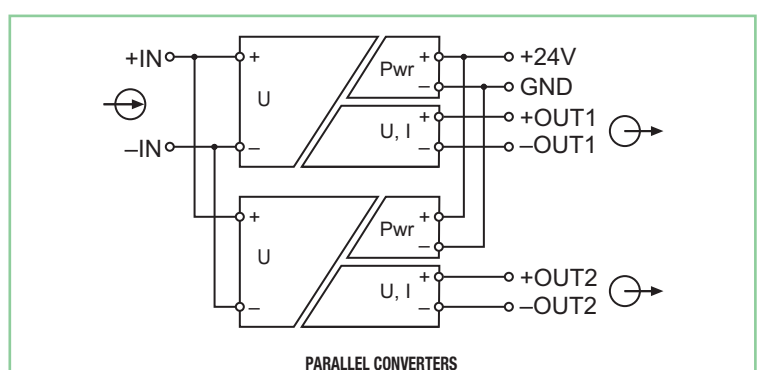

fig. 7
- In case of voltage signals, the input of the converters must be connected in parallel (Fig. 7).